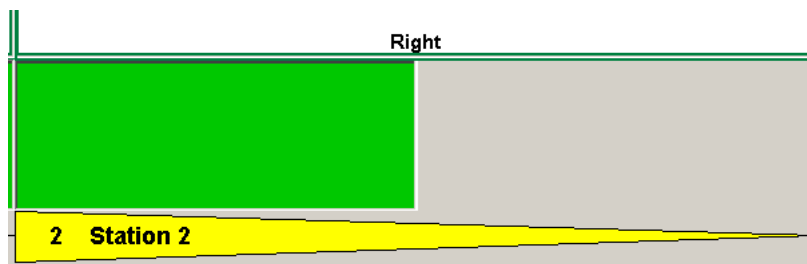

Figure 72: Example for a Blocked Area
- 2) Left-click the field and mark the number. The next step is to enter the value for the blocking. In the example, an area of 4 meter on the right side of the station is blocked. The grey area indicates the blocked area. *Please refer to the Figure 72.*